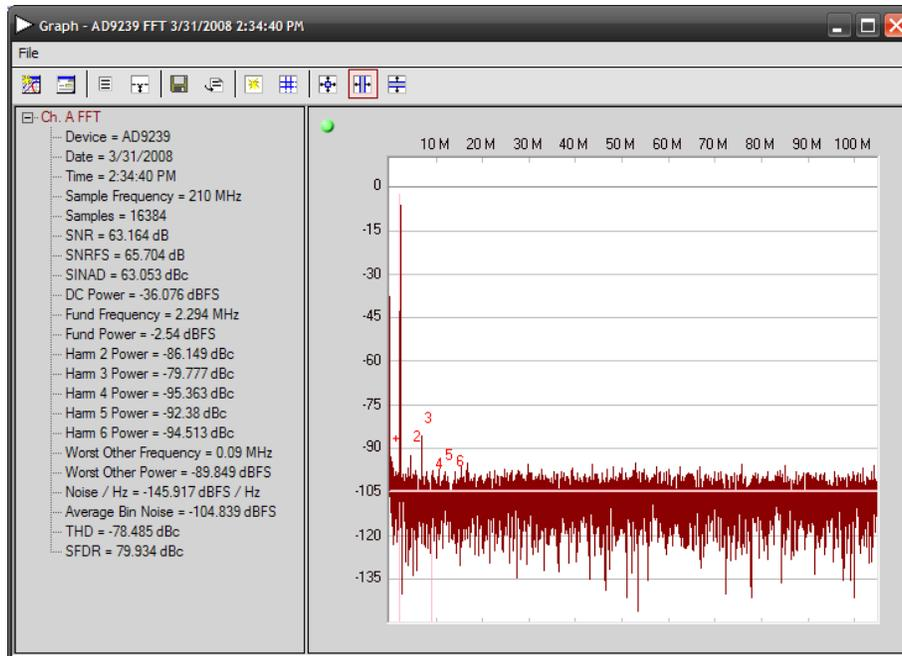

Figure 5: VisualAnalog – Graph of Results
- Click the Run button (▶) VisualAnalog. Two graph windows should appear. On the Channel A FFT, you should see results similar to Figure 5. If you apply a signal to Channel B, then you can view similar results on the other graph.